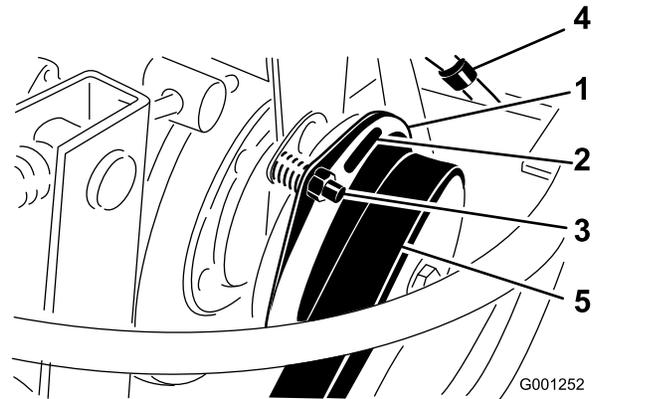

Figure 77
3. Adjust the air gap so that a 0.4 mm (0.015 inch) feeler gauge slides in between the clutch lining and friction plate with light pressure (Figure 77).
Note: You can decrease the gap by turning the adjusting nut clockwise (Figure 77). The maximum service gap is 0.7 mm (0.030 inch). Adjust all 3 air gaps.